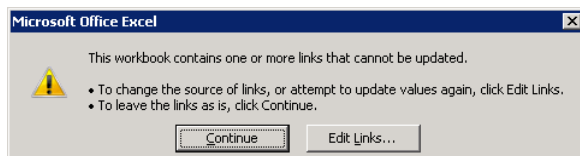

Figure 2. Edit Links
2. Click **Edit Links** as shown in Figure 2.